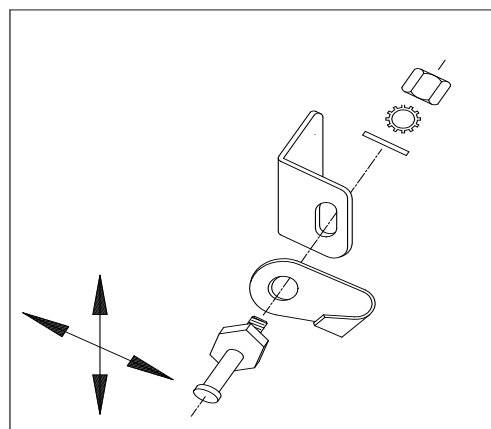

Fig. 14.2 (striker bolt)
14.2 Per fig. 14.2, the large striker bolt and nut can be loosened and reset higher or lower or forward or back for better engagement in the door latch assembly if necessary. Use two 3/4" open end wrenches. Note: finger guard to end up being centered and facing inward.